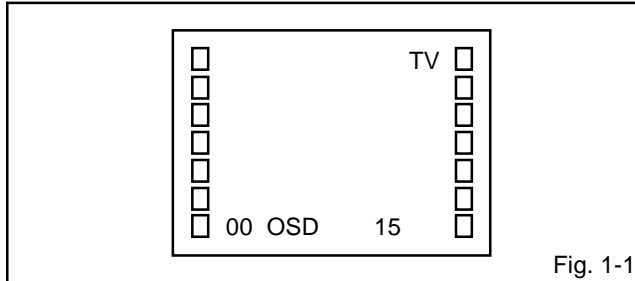

Fig. 1-1
1. Follow the steps as follows to discharge the Anode Cap. (Refer to Fig. 1-1.)
Press the VOL. DOWN button on the set and the Channel button (9) on the remote control for more than 1 second to appear the adjustment mode on the screen as shown in Fig. 1-1.
4. Activate the adjustment mode display of Fig. 1-1 and press the channel button (02) on the remote control to select "RF AGC DELAY".
3. Activate the adjustment mode display of Fig. 1-1 and press the channel button (01) on the remote control to select "CUT OFF".
4. Activate the adjustment mode display of Fig. 1-1 and press the channel button (10) on the remote control to select "R.BIAS".
3. Activate the adjustment mode display of Fig. 1-1 and press the channel button (16) on the remote control to select "TINT".
2. Activate the adjustment mode display of **Fig. 1-1** and press the channel button **(05)** on the remote control to select "H PHASE".
2. Activate the adjustment mode display of **Fig. 1-1** and press the channel button **(06)** on the remote control to select "V SIZE".
2. Activate the adjustment mode display of **Fig. 1-1** and press the channel button **(07)** on the remote control to select "V SHIFT".
1. Activate the adjustment mode display of **Fig. 1-1**.
4. Activate the adjustment mode display of **Fig. 1-1** and press the channel button **(03)** on the remote control to select "VIF VCO".
2. Activate the adjustment mode display of **Fig. 1-1** press the channel button **(14)** on the remote control to select "CONTRAST".
1. Activate the adjustment mode display of **Fig. 1-1** and press the channel button **(13)** on the remote control to select "BRIGHTNESS".